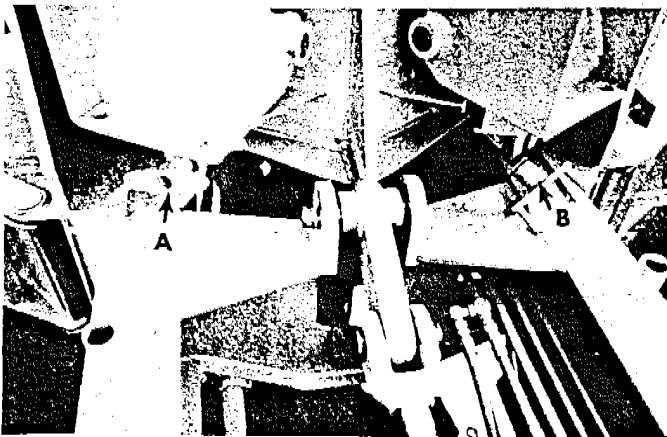

Fig. 35
c. Unlock the 4 cranks that hold the arms tightly against the tower. (Locked position - a, Unlocked position - b) (Fig. 35)